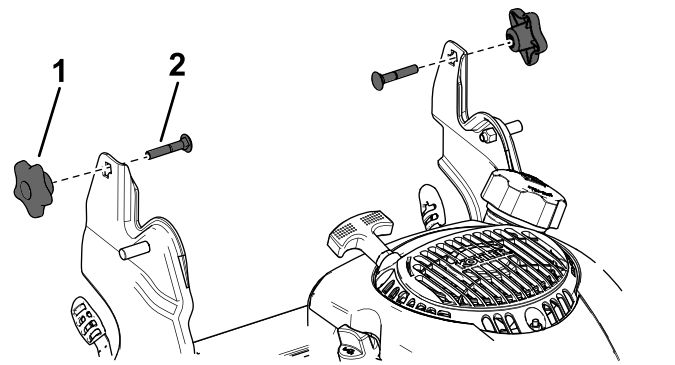

Figure 18
3. Loosely install the handle knobs and carriage bolts on the handle brackets (Figure 18).